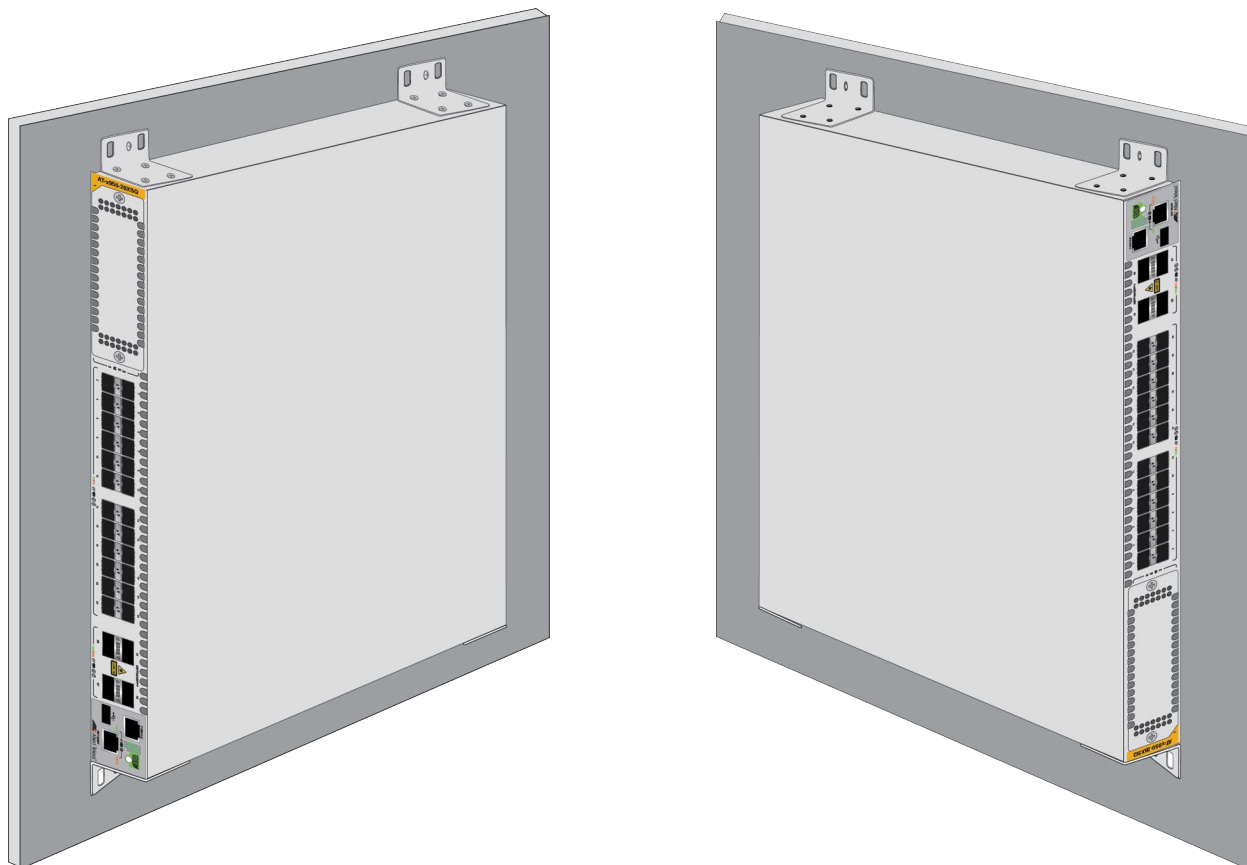

Figure 58. Positions of the Switch on the Wall
You can install the switch on a wall with the front panel on the left or right, as shown in Figure 58. Do not install it with the front panel on the top or bottom.
- ❑ Position the switch so that the front panel is either on the left or the right. Refer to Figure 58 on page 124. You may not install the switch with the front panel facing up or down.
- Position the switch so that the front panel is either on the left or the right. Refer to Figure 58 on page 124. You may not install the switch with the front panel facing up or down.